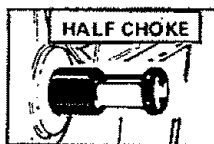

Figure 7
- Push choke knob in until half choke position is felt. Figure 7.
- Pull choke knob until half choke position is felt. Figure 7.
**NOTE:** If engine does not run after 4 pulls, it could be flooded. Wait a few minutes and repeat procedure using half choke. Figure 7.